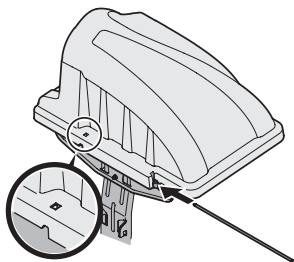
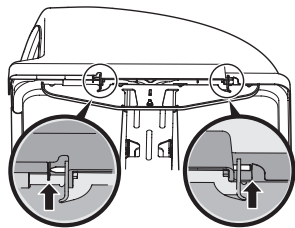

Figure 12
Figure 13
- Slide the hinge pin (711-04988) into the hole located on the mounting tab, as shown in Figure 12. Use the cut-out window (see inset in Figure 12) to line up the hinge pin on the other side and push pin all the way in until it reaches the end-stop. At this point the pin clips into place and is secured by a tab in the bagger cover. See Figure 13.